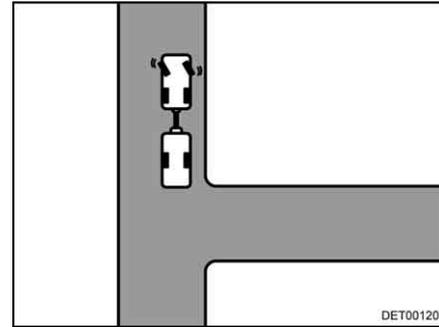

Fig. 19 Steer to the left
- Steer the stationary towing vehicle and trailer to the left (Fig. 19).